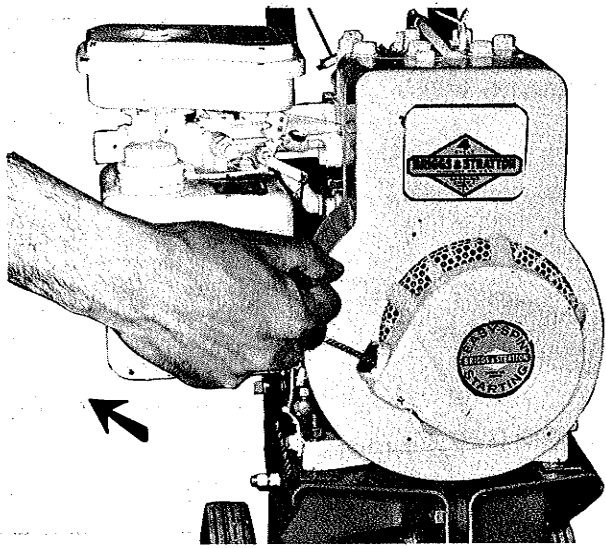

Figure 13.
c. See Figure 13. Grasp the recoil starter handle firmly in your right hand and pull sharply straight out to start the engine. After the engine starts, return the choke to OFF position. If the engine fails to start after 4 or 5 pulls it may be flooded. Return the choke to OFF position and pull recoil starter handle to clear the excess fuel. Always return the handle by hand - DO NOT RELEASE THE HANDLE WITH THE ROPE EXTENDED. To stop the engine, pull the throttle lever all the way back.